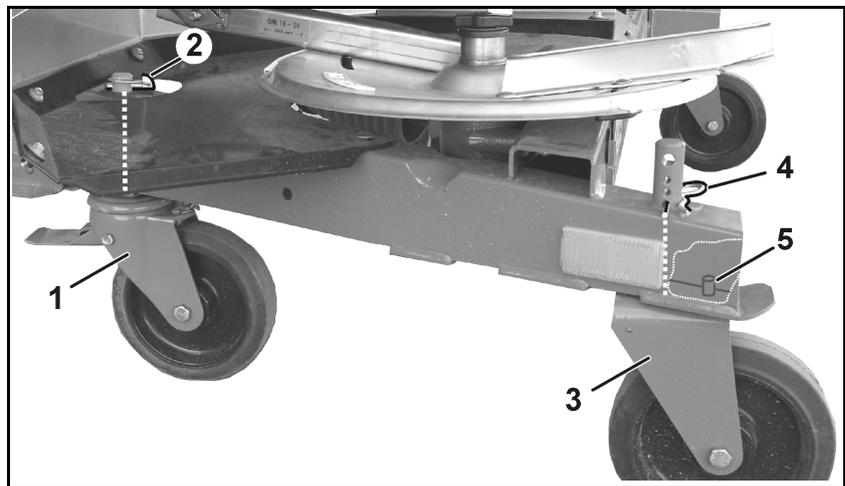

Fig. 39
5. Steerable brake rollers (Fig. 39/1), front
- o Install and secure with clip pin (Fig. 39/2),
6. Rigid rollers (Fig. 39/3), rear
- o Install and secure with safety splint (Fig. 39/4) in lowest bore,
When installing the rigid rollers ensure that the pin (Fig. 39/5) goes through the bore of the frame, thus holding the rollers in longitudinal direction.